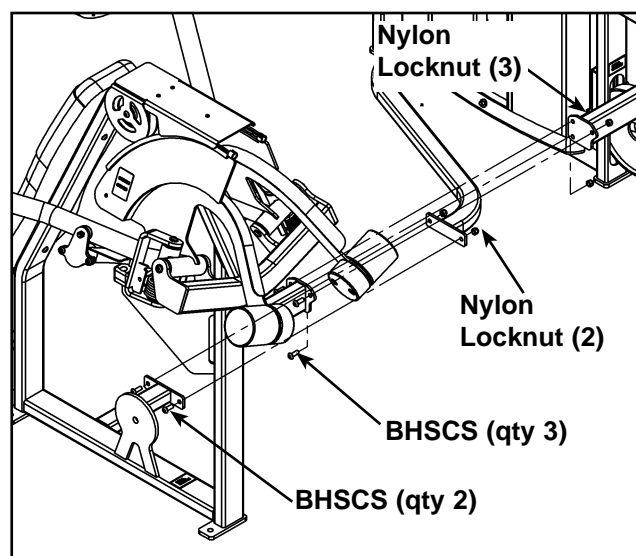

Figure 4
- J. With an assistant, carefully remove the five BHSCS securing the two halves of the frame. See Figure 4.
- L. With an assistant, carefully attach each half together using the five BHSCS removed in step 4J. See Figure 4.